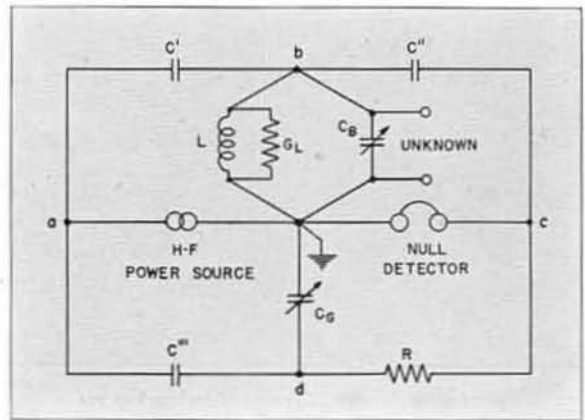

FIGURE 2. Parallel-T circuit for measuring impedance at radio frequencies.
**T-Networks:** In addition to the bridge circuits described above there are a number of other networks which can be adjusted to give zero transmission for a particular configuration of circuit elements. Several of these, particularly the Twin-T or Parallel-T illustrated in Figure 2, have proved to be of great value for impedance measurements at high radio frequencies. This circuit is used in the TYPE 821 for impedance measurements from 0.5 to 40 megacycles.
**Resistive Balance:** All impedances have resistive components, and the bridges used for impedance measurement must be capable of measuring this resistance in some manner. Three methods are in general use: (1) Series resistance, in which the balancing resistor is placed in series with the standard reactance; (2) parallel resistance, in which the balancing resistor is placed in parallel with the standard reactance; and (3) the Schering bridge in which a balancing condenser is placed in parallel with the ratio arm opposite the unknown condenser. The series resistance method is used in the TYPES 650, 740, and 667, while the TYPE 716 uses the Schering circuit for balancing the resistive component of impedance in terms of the dissipation factor. The TYPE 916 resembles a Schering bridge but uses a series-substitution method, with a fixed condenser in the *N*-arm for reactance measurement, which makes possible the calibration of the condenser across the *A*-arm in terms of the series resistance of the unknown, independent of frequency. The TYPES 716 and 650 are so constructed that the parallel resistance method can also be used.